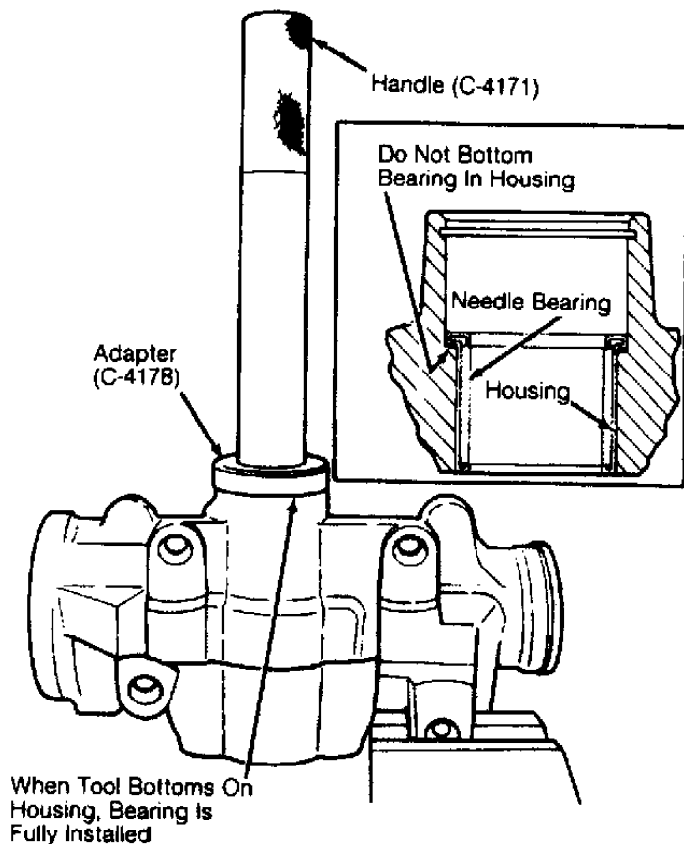

Fig. 13: Installing Sector Shaft Bearing
1) Install sector shaft bearing in steering housing using Handle (8015) and Adapter (7614). See Fig. 13. Position bearing so identification marks face away from adapter. Press in bearing until adapter bottoms against housing. DO NOT bottom bearing in housing.